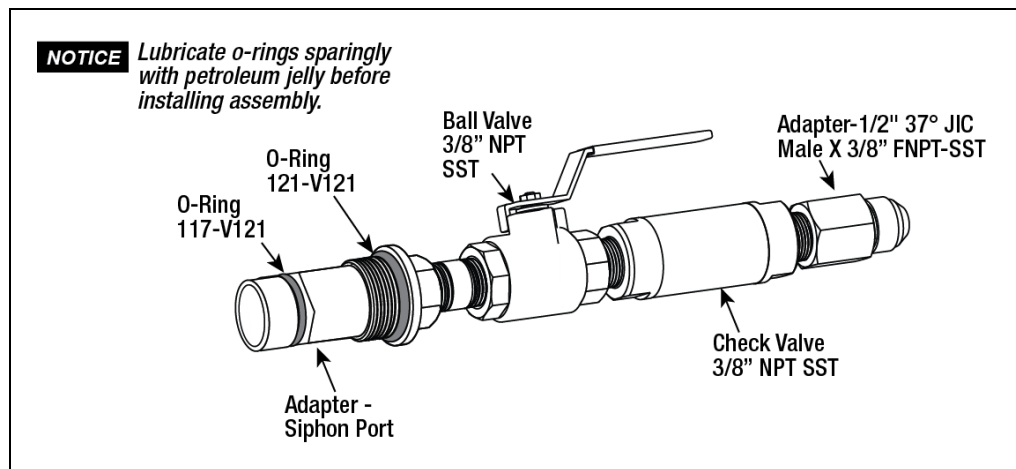

Figure 14. TRJ Pump Siphon Port Assembly
3. Lubricate the two o-rings of the STP Adapter Assembly with petroleum jelly and install the assembly into the siphon port of the STP and tighten securely (see Figure 14).